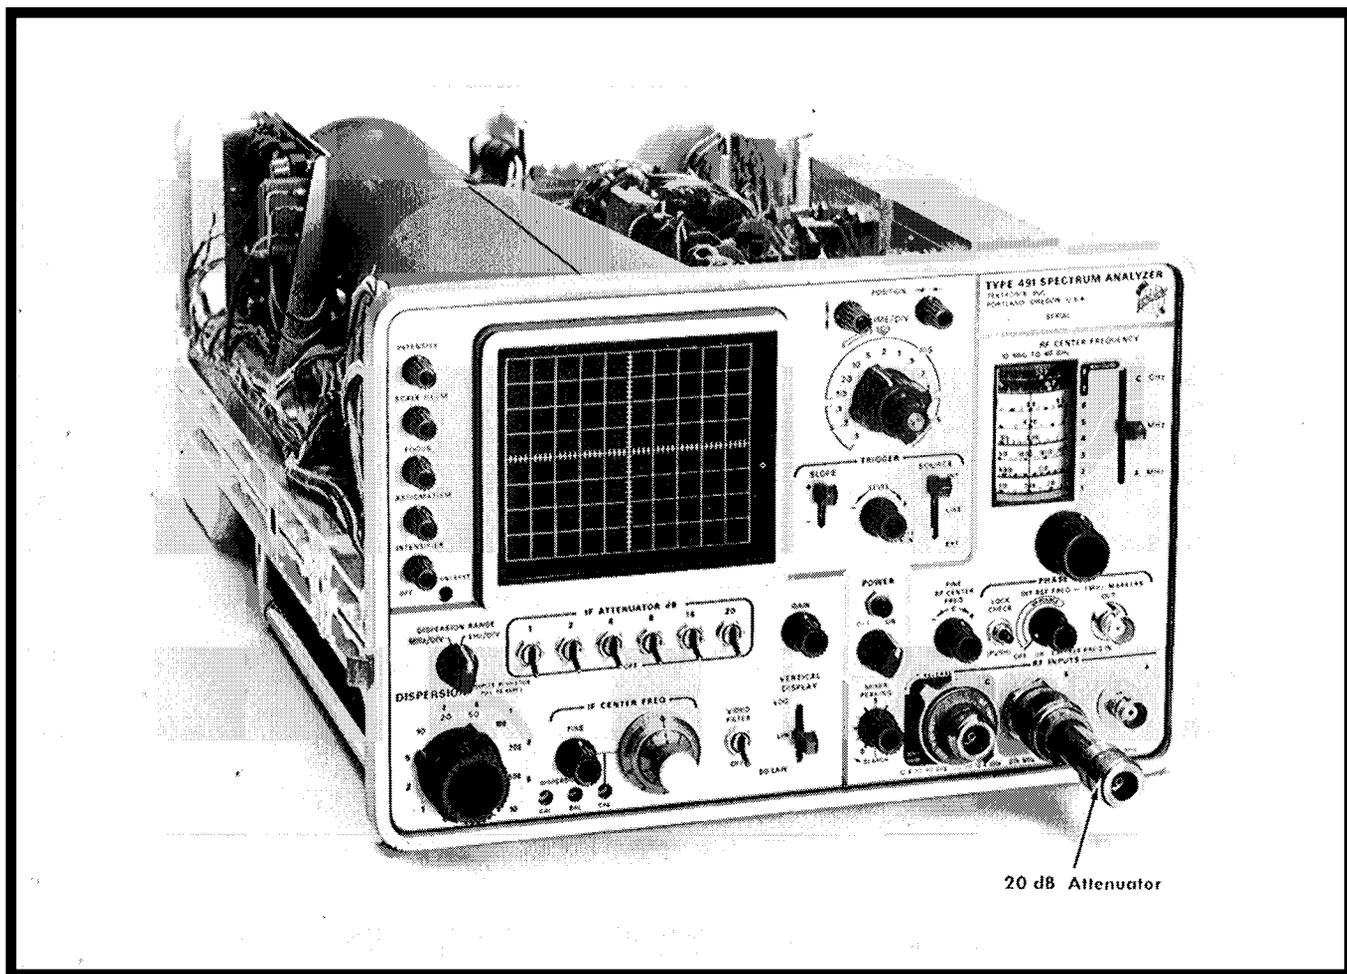

Fig. 6-40. Equipment setup to check internal spurious responses.
- a. Equipment setup is shown in Fig. 6-40.